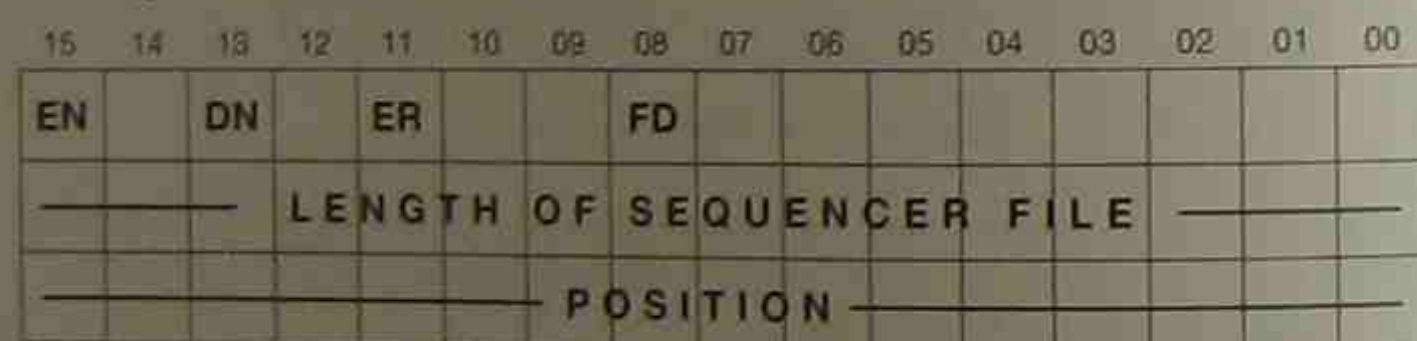

Figure 17-8 Three-Word Element for an SQO Instruction
The Control is the three-word element that stores the status bit for the sequencer, as well as the length of the sequencer file and the position of the sequencer. Figure 17-8 shows the three-word element for the SQO instruction.
The status bits for this instruction are the same as the SQO instruction previously discussed (Figure 17-8), with the addition of the Found Bit (FD) (bit 8). This bit will be set to 1 whenever the status of all of the unmasked bits in the source word match the status of the reference word in the sequencer file.